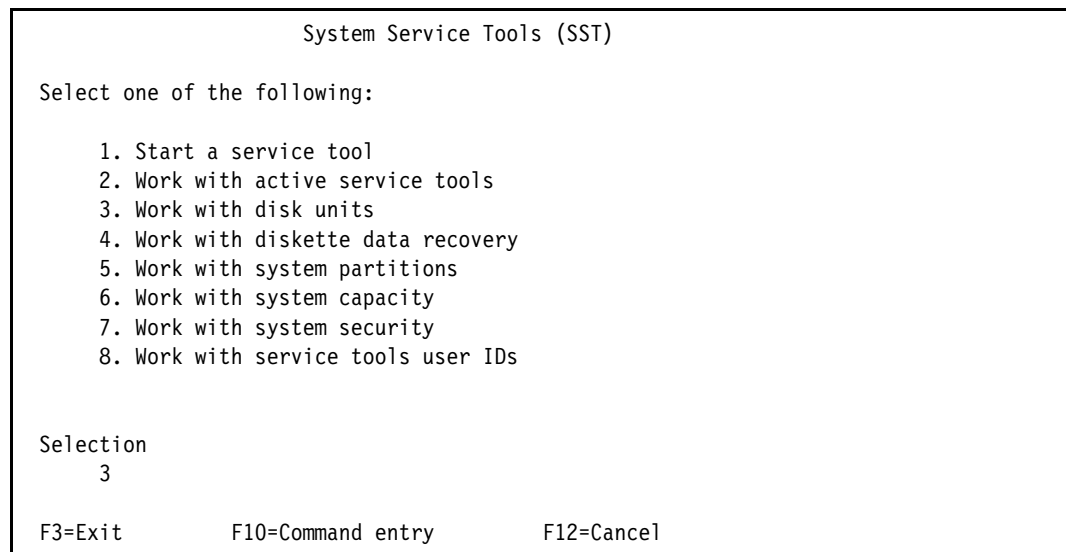

Figure B-1 System Service Tools menu
2. Select Option **3**, Work with disk units as shown in Figure B-1.